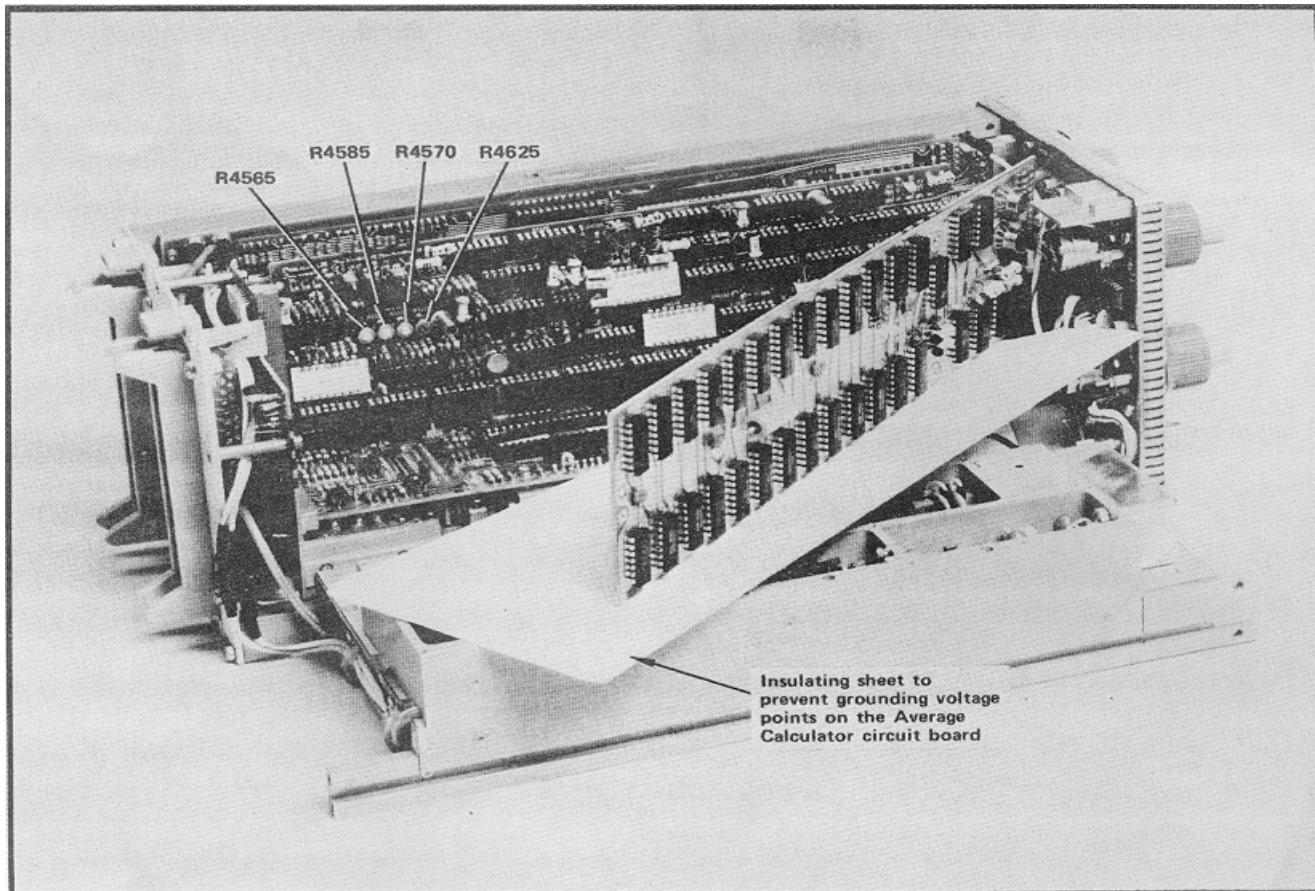

Fig. 4-20. Digital Storage test points and adjustments.
a.---Preparation: Turn the power off. Remove the Digital Averaging board to gain access to the adjustments on the Digital Storage board. Place the Digital Averaging board alongside or on top of the instrument with a piece of insulation material, such as a sheet of paper, between the back of the board and the instrument (Fig. 4-20). This will prevent accidentally grounding the exposed solder points on the circuit board
d. --- Adjust R4585 (Fig. 4-20) slowly ccw, from a fully cw position, until all of the display (include the display edges) remain stored at the end of sweep. Turn R4585 slightly past this point to assure stability.
e. --- Increase the sweep rate to 10 ms or 5 ms, then adjust the Horizontal Offset with R4570 (Fig. 4-20) to place the stored 500 kHz marker under the frequency DOT. Check accuracy by switching the DIGITAL STORAGE off and on. The marker location for the non-store and stored displays should be the same.
f. ---- Adjust the Horizontal Gain, with R4625 (Fig. 4-20), so the stored 4500 kHz marker is aligned with the non-store marker. Check the accuracy by switching the DIGITAL STORAGE off and on.
h.--- Adjust the storage Vertical Gain, with R4565 (Fig.4-20) so the amplitude of the stored display and the n store display are the same.